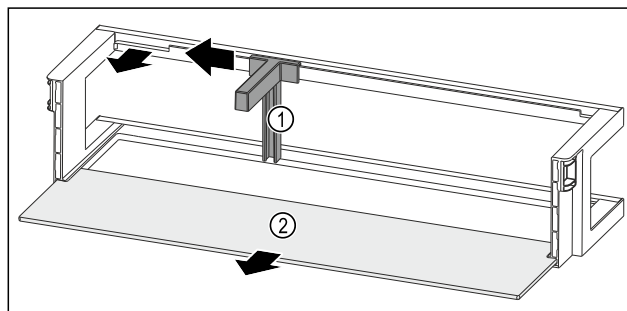

Fig. 177 Door rack with bottle holder and shelf
- ▶ Slide the bottle holder Fig. 177 (1) to the side as far as the recess.
- ▶ Remove the bottle holder Fig. 177 (1).
- ▶ Remove the shelf Fig. 177 (2).